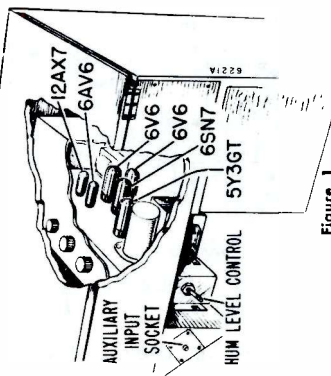

Figure 1.
3. Find **Hum Level** control shaft which extends from rear of chassis (see figure 1). Vary control for minimum hum in output. (Setting R39 for minimum hum feeds to control grid of 6V6 an out-of-phase 60 cycle voltage of an amplitude sufficient to cancel out any stray 60 cycle hum picked up by amplifier.)